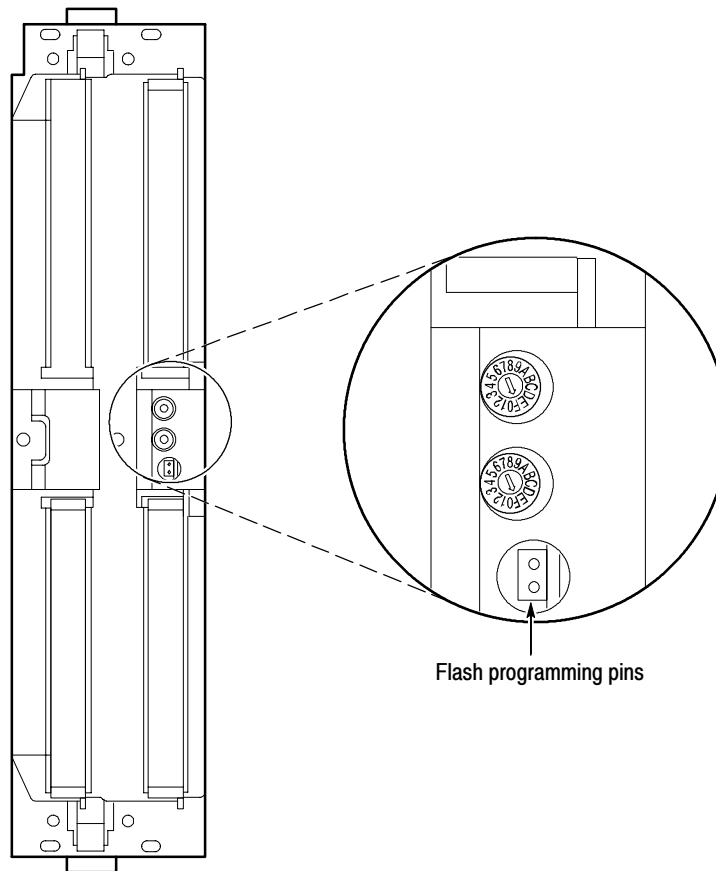

**Figure G-2: Flash programming pins**
5. Refer to Figure G-2 and locate the flash programming pins on the rear of each module.